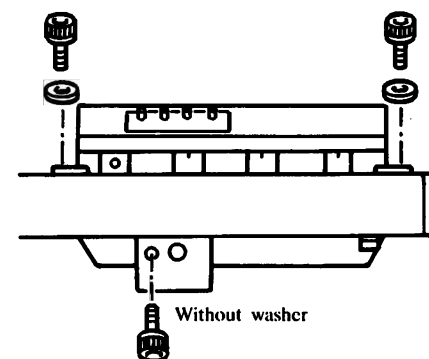

Fig. 9
- (4) Remove the bolt (5×8) and washer for the Belt cover.
(5) Pull out the Belt cover to the opposite direction of the Motor head.
(6) Take the Jam sensor (Motor stop sensor), Yarn sensors and plug of Foot switch out of the Motor head.
(7) Remove the three bolts (5×8) Fixing the Motor head to the Rail. (Refer to Fig. 9)
- (8) While supporting the motor head with your hand, pull it out the rail.